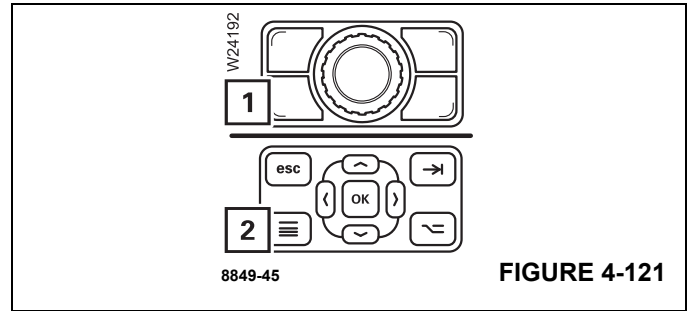

FIGURE 4-121
- To do so, open the main menu and press the button (1), (Figure 4-121) or (2) once.